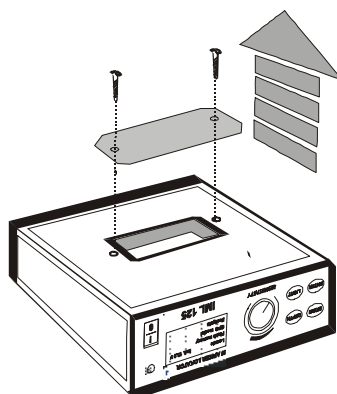

Fig. 8
1. Remove the metal battery cover on the underside of device (Fig. 8).